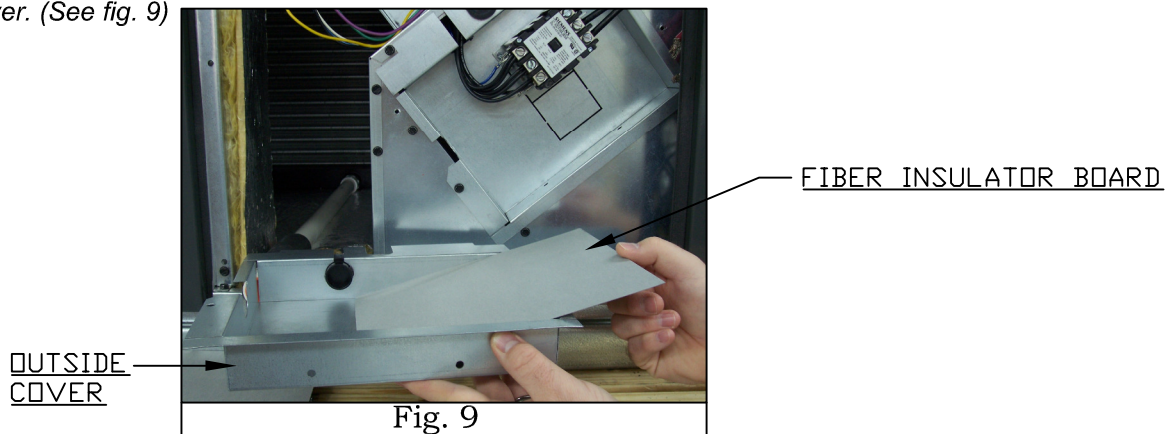

Fig. 9
13.) Route the 9-pin harness wires through the rubber grommet, and route the HKR/HKA/HKP heater kit wires through the plastic bushing in the rear mounting plate. (See fig. 9)
17.) If the heater kit includes a contactor (3PH kits), place included fiber insulator board on the inside of the "outside" cover. (See fig. 9)